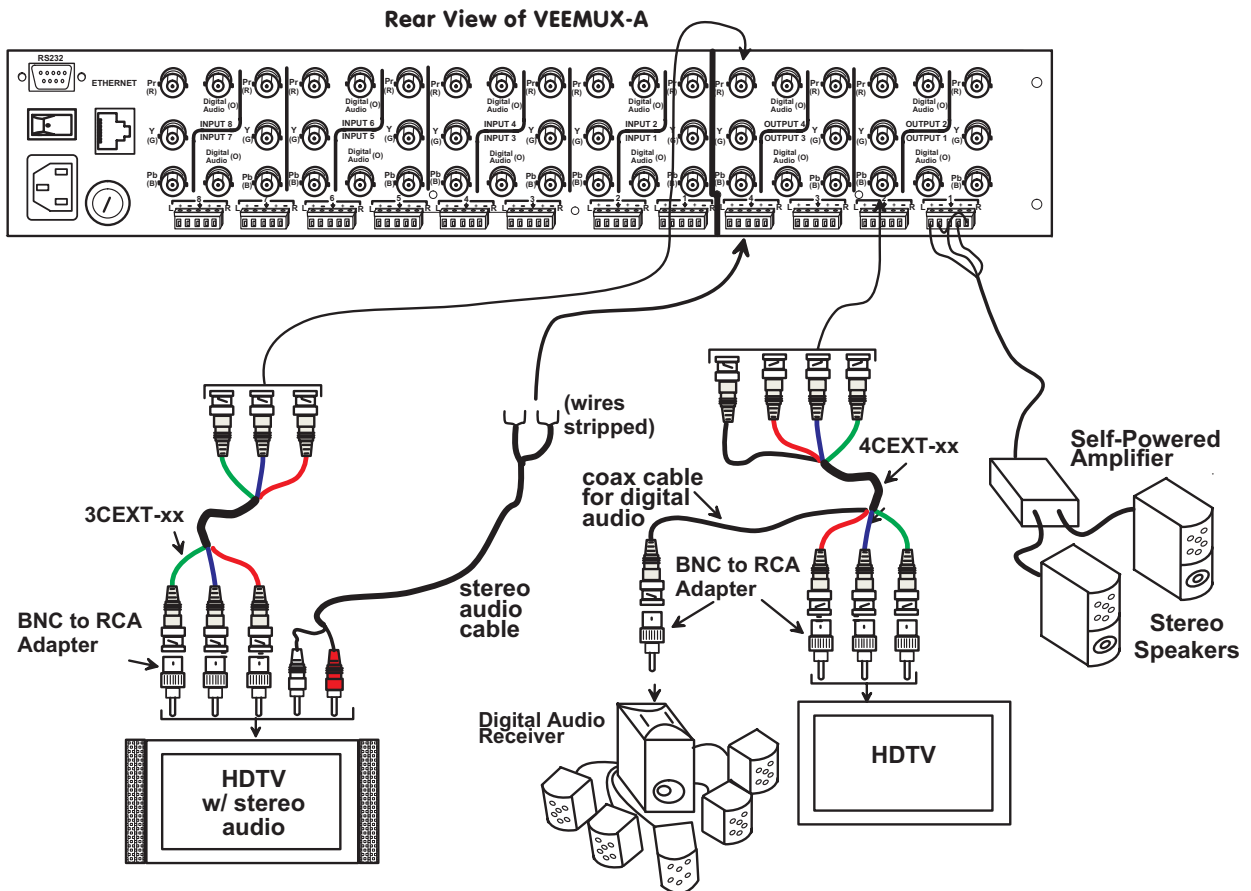

Figure 3- Connect devices, audio and video
1. Connect each of the video display devices to the VEEMUX-A using 3CEXT-xx or 4CEXT-xx cables. The groups of terminals are labeled OUTPUT1-4. Use BNC to RCA adapters (as shown in figure 3) to connect the BNC cables to the devices. Connectors on the VEEMUX-A are labeled green (Y), blue (Pb) and red (Pr) to correspond with the colors on the BNC cables.
RS232 control can be achieved using a separate user terminal or CPU with a terminal program. To make a terminal connection, connect a serial cable (specifications on page 30) between the user terminal and the 9 pin DIN female connector on the VEEMUX-A labeled "RS232". (See Fig. 3)